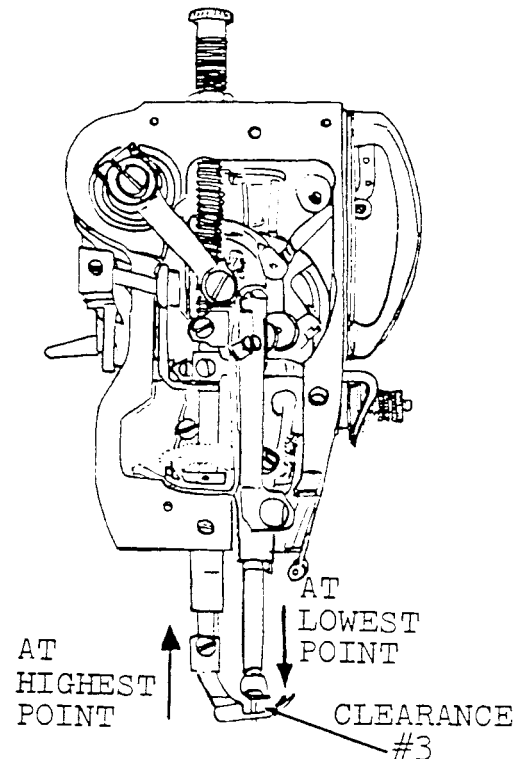

Fig. 29. Clearance between Presser Foot and Needle Bar
3. When presser foot is at its highest point and needle bar is at its lowest, top of presser foot should clear lower end of needle bar, as shown at #3 in Fig. 29.